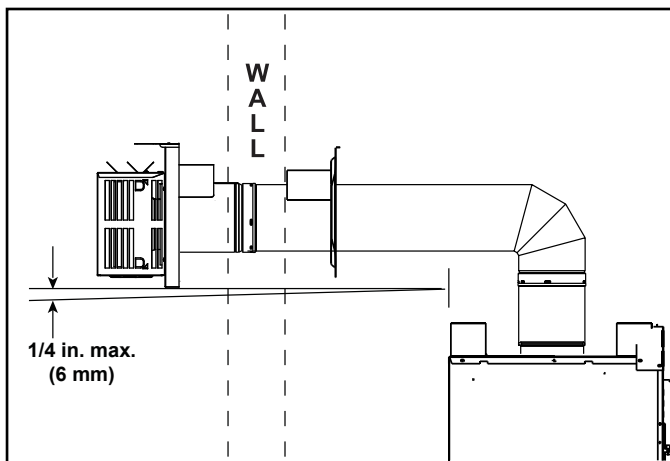

Figure 4.8
- It is recommended that the horizontal termination cap have a 1/4 inch downward slant to allow any moisture in cap to be released. See Figure 4.8.